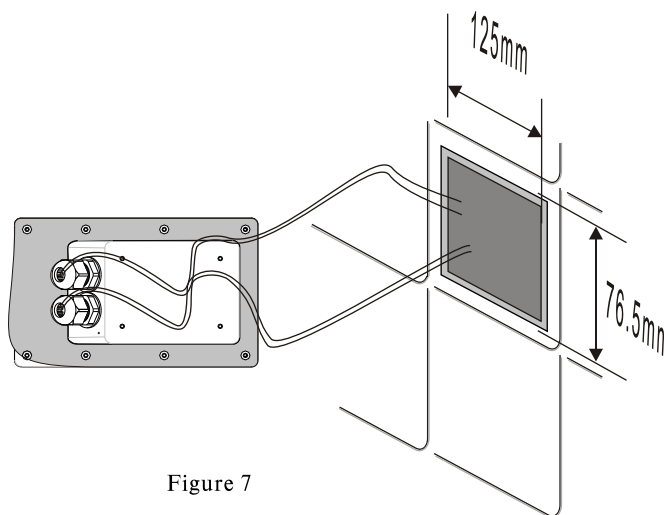

Figure 7
2. Keep the display screen at the position of 12 o'clock, then press the control panel tightly and make it adhere to the wall firmly (Figure 7).